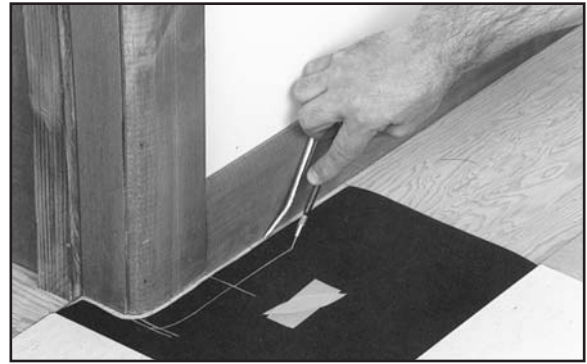

Fig. 9.
3. Scribe the felt with dividers and extend reference lines (Figure 9).